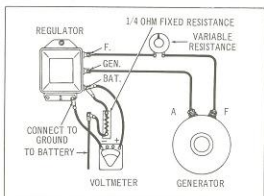

Figure 51-3.
**C. TESTING VOLTAGE CONTROL UNIT SETTING (FIG. 51-3)**